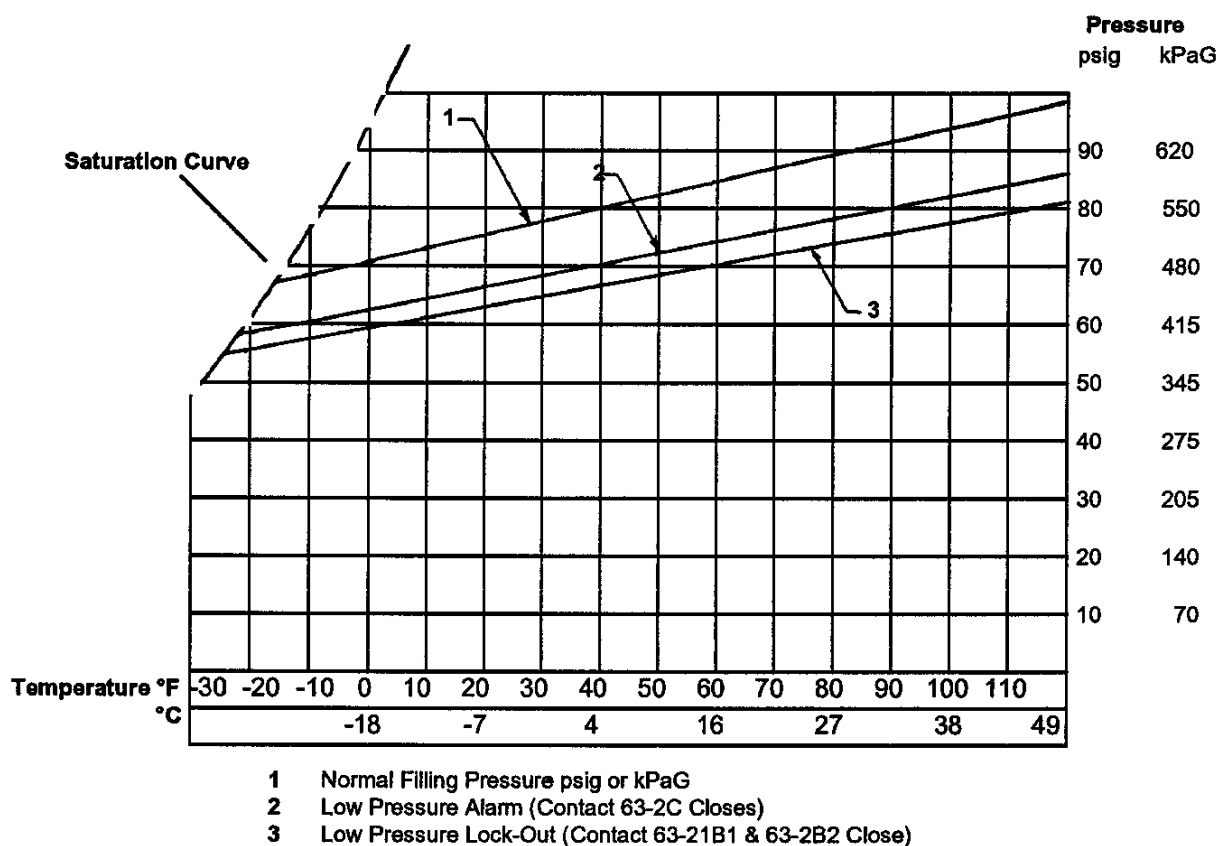

Figure 3
1. Refer to the SF6 Gas Density Monitor Calibration Curve and Chart (Figs. 3 and 4) to determine the proper alarm and lock-out pressure settings for the current ambient temperature.
**Tabular Version of the Pressure vs. Temperature Characteristics shown in Figure 3**
Set each switch to the pressure indicated in Figures 3 and 4.